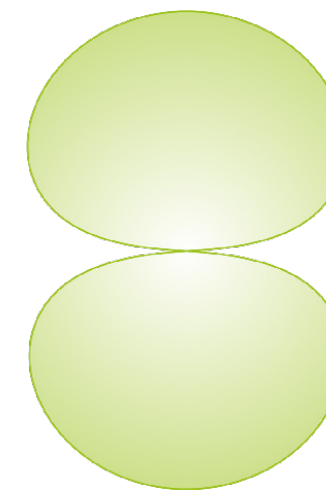

Figure-8
Omni, wide cardioid, cardioid, supercardioid, figure-8, reverse wide cardioid, reverse cardioid, reverse supercardioid.
The omni pattern has the same sensitivity to sound pressure coming from any direction. An omni pattern provides the best bass response, flattest frequency response, and is the least sensitive to handling or wind noise in comparison to all other polar patterns. It will shine in good sounding rooms and time-based stereo recordings. It picks up very high frequencies with more directivity leading to higher side rejection of the signal for these frequencies (this effect turns the omni into figure-8 at the 16 kHz mark). In most live situations where the picked-up signal is monitored and played back through the PA, feedback can be an issue.
### // Figure-8
The figure-8 pattern has the same sensitivity at 0° and 180°, it is the least sensitive at 90° and 270°. It is often chosen for various stereo recording techniques (Mid Side, Blumlein). It can also be very helpful in situations where you do not want a signal coming from a 90° angle to bleed into the microphone. It has the highest side rejection of all polar patterns making it very useful to deal with signals bleeding into the microphone coming from the side. In live recording situations you can achieve fairly dry recordings although many instruments are recorded in the same room at the same time. In comparison to all other polar patterns it has the least bass response and it is the most sensitive to wind and handling noise.
- Figure-8
- **Figure-8**